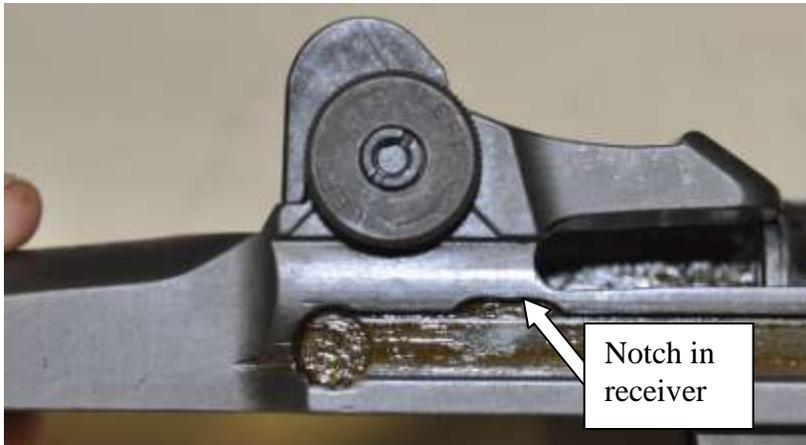
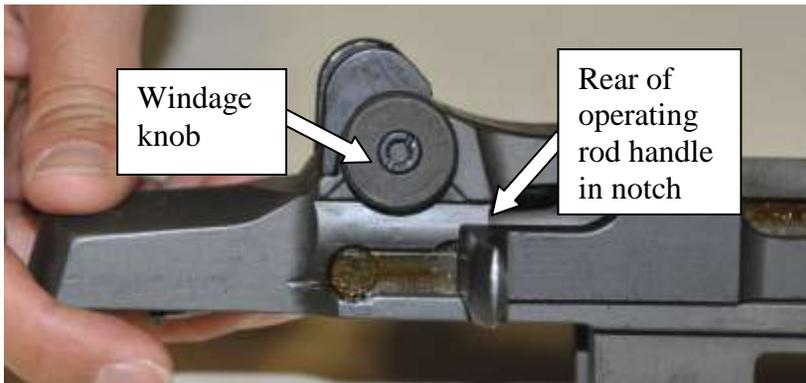

Figure 19 -Notch on receiver
Figure 20 -Handle under forward edge of windage knob
- 5) With the receiver facing upright, pull the operating rod to the rear with slight upward force until it engages the notch (fig 19) in the receiver (the rear of the handle will be directly under the forward edge of the windage knob) (fig 20).